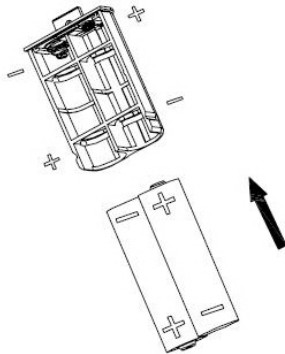
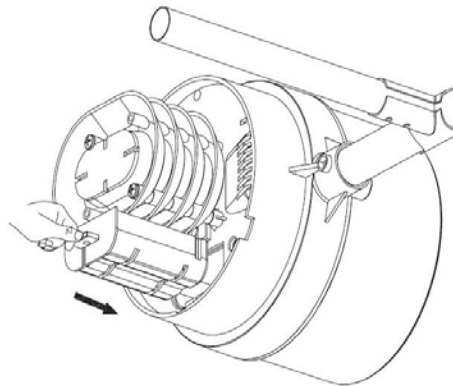

Figure 3
Figure 4
3. Insert 2xAA alkaline battery in the battery compartment. (figure 3) Push the battery compartment into the rain collector unit. (figure 4)